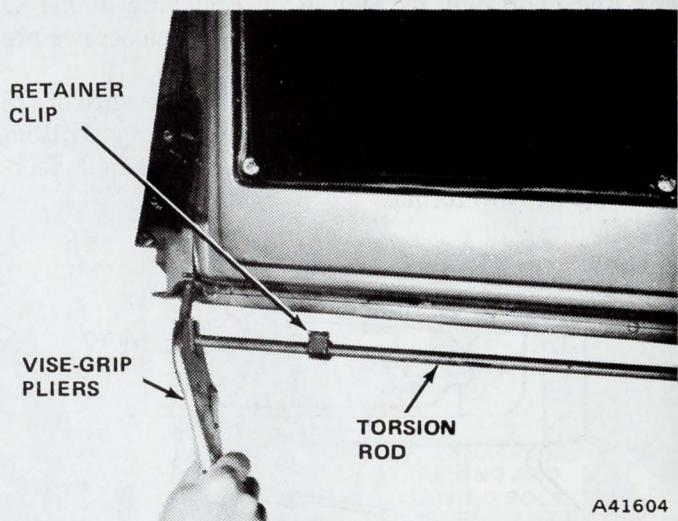

Fig. 3H-40 Torsion Rod Removal
(1) Open tailgate vertically to expose torsion rod attachment at right lower hinge.
(2) Remove torsion rod retainer clip screw.
(3) Using Vise-Grip pliers, twist torsion rod slightly clockwise and pull it out of lower hinge (fig. 3H-40).